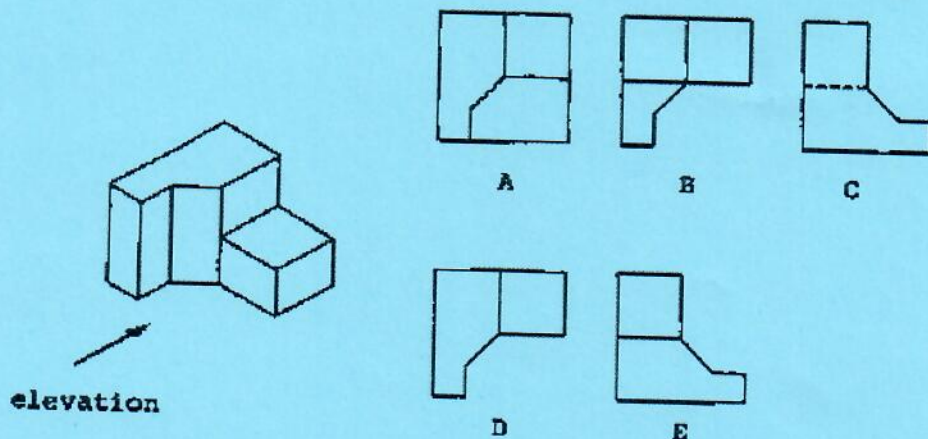

Figure 3 An isometric of a block with associated possible plan views
- c) What is the correct plan view of the block in Figure 3. [2 marks]